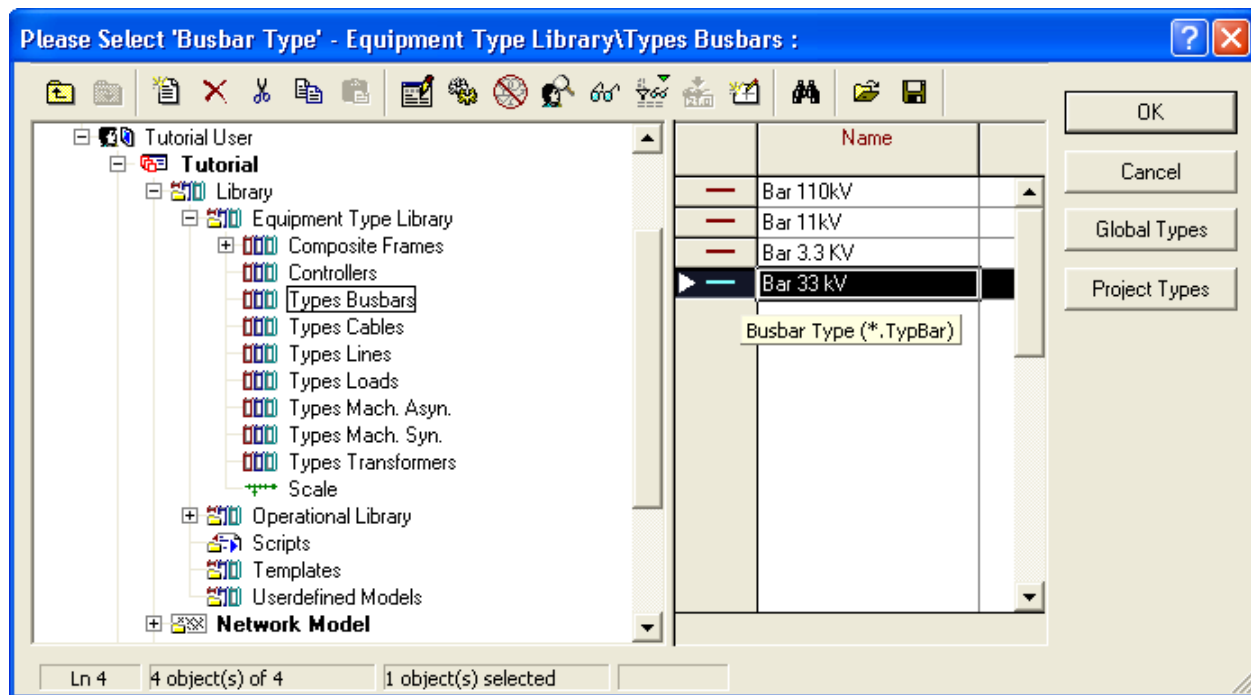

Fig. D.8: Selecting a busbar type
- ▶ To enter the *Type*, left click the type selection button (▼) and choose the *Select Project Type* option. This opens the library in the database tree. Please navigate to the 'Types Busbars' folder as shown in figure D.8. This busbar library has been installed by the Tutorial Manager. When needed, click on the '+' symbol to open the Database subfolders or doubleclick them.
- ▶ Select the "Bar 33 kV" type by left clicking the small object icon. Holding the mouse still above the object icon will bring a balloon help as depicted in figure D.8.